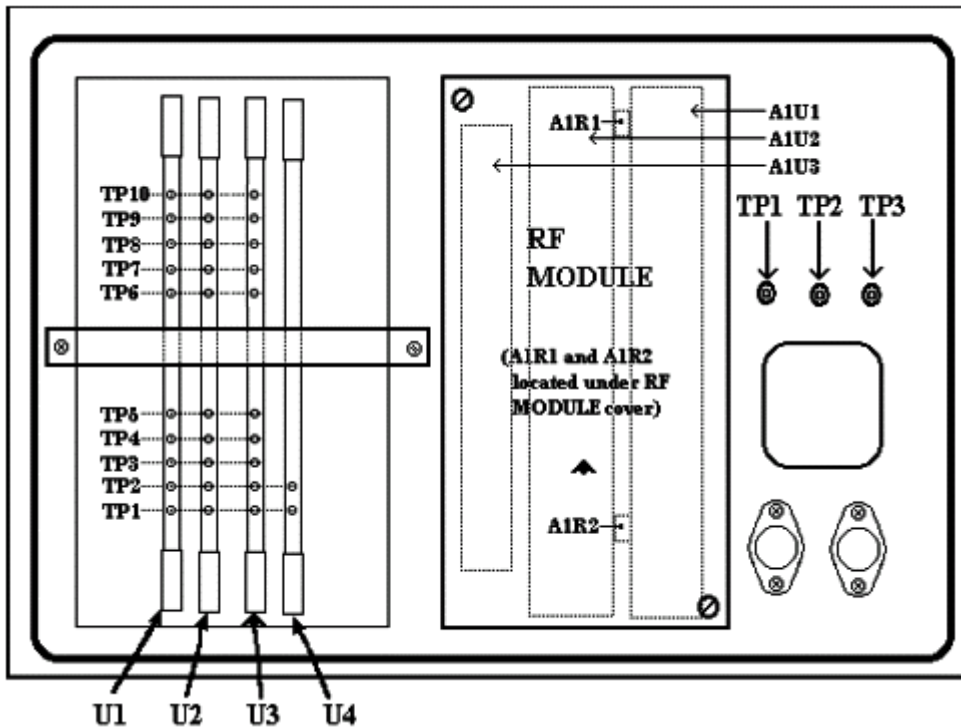

Figure 2. Test instrument – rear view.
(1) Set TI **POWER** switch to **OFF** and remove the housing from the RF **MODULE** (fig. 2) as listed in (a) through (c) below.
(a) Disconnect the three RF cables from side of RF **MODULE** (fig. 2).
(b) Release the two hold-downs at opposite corners of module and gently lift RF **MODULE** (fig. 2) A1 from its connector.
(c) Replace RF MODULE (fig. 2) into its chassis assembly and reconnect the three RF cables.
(6) Adjust A1R1 (fig. 2) until **ACCEPT/REJECT** indicator just changes from **REJECT** to **ACCEPT (R)**.
- (1) Set TI switches as listed in (a) through (d) below:
- (2) Connect peak power meter to TI **RADIATED TEST ANTENNA** connector.
- (3) Measure pulse power output of TI. If measured output power is not between -5 and -7 dBm, perform **b** below.
**b. Adjustments.** Adjust A1R2 (fig. 2) until power meter indicates -6 dBm. Reinstall RF module cover (R).